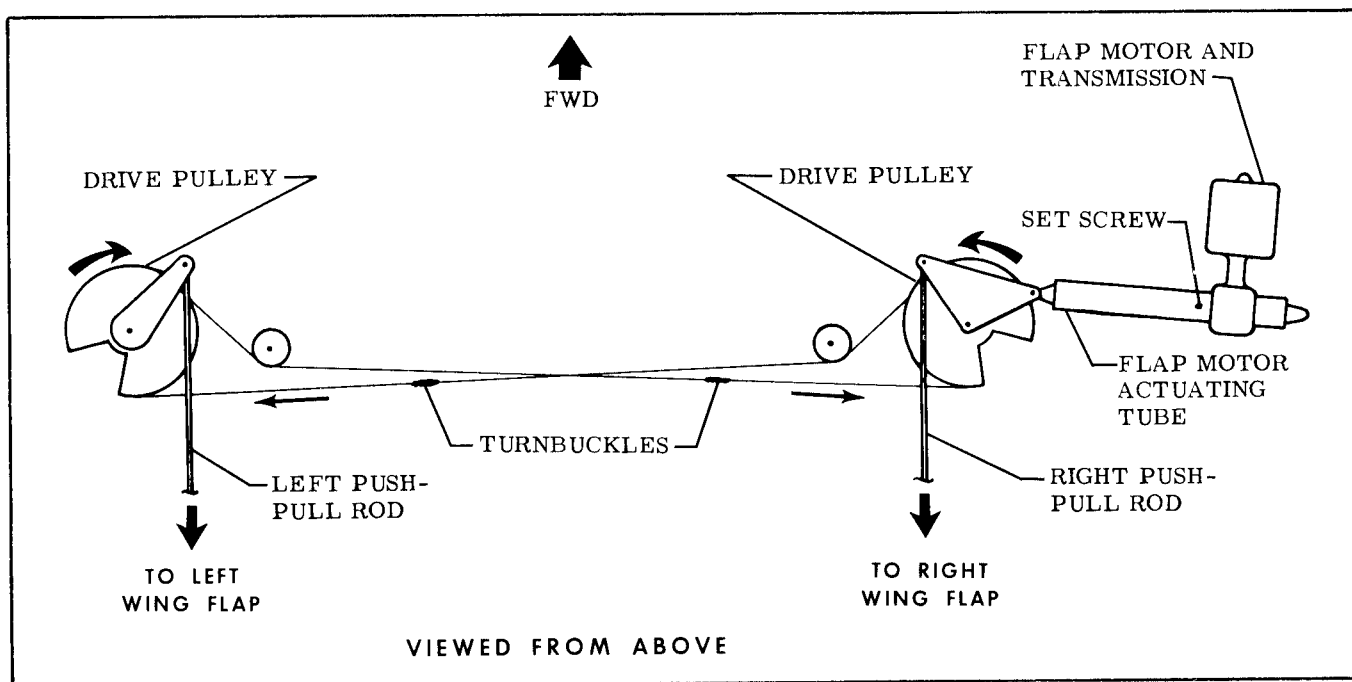

Figure 7-4. Flap System Schematic
If control cables are not connected to left and right drive pulleys, actuating tube (5) and push-pull rods (15) must be disconnected before installing cables. If drive pulleys (14) are not installed, attach control cables before installing drive pulleys in the wings as illustrated in figure 7-4.
- f. Adjust both push-pull rods (15) to  $8.83 \pm .12$  inches between centers of rod end bearings and tighten locknuts on both ends. Connect push-pull rods to flaps and drive pulleys.